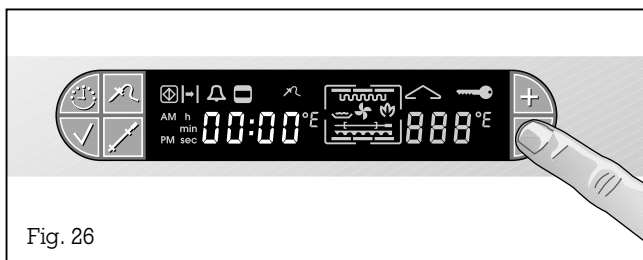

Fig. 26
- Press the - key while the appliance is on (Fig. 26).